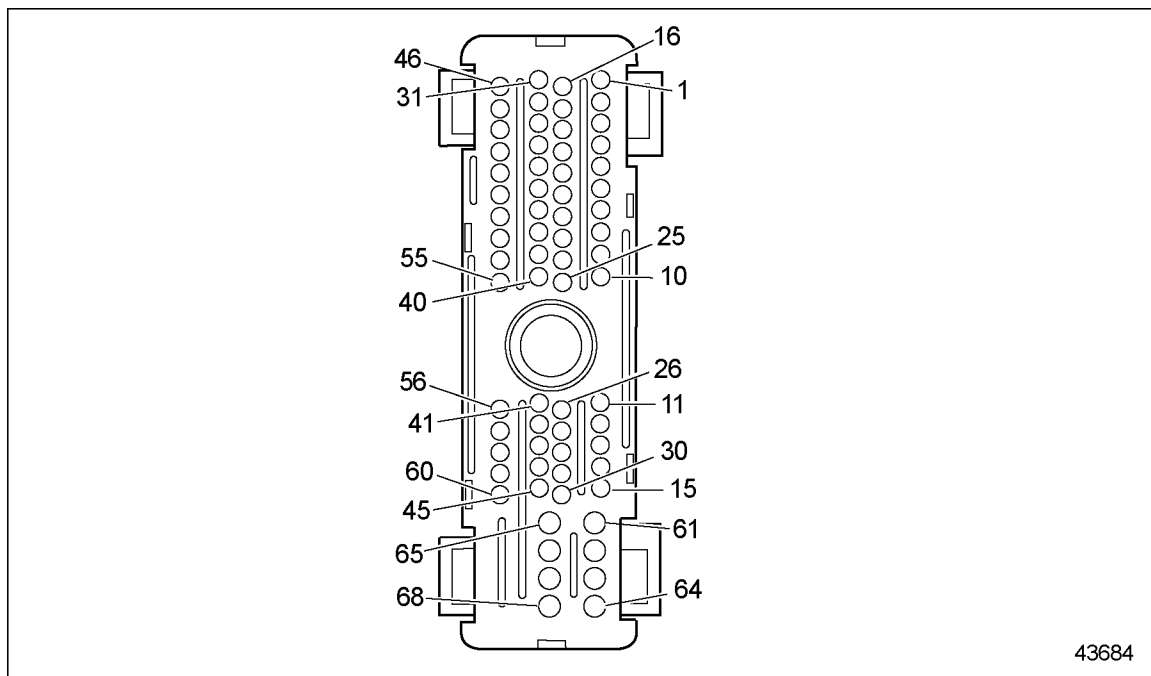

Figure 26-4 ECM/ECU Vehicle Harness Connector
3. Read resistance between sockets V-13 and V-11 on the vehicle harness connector. For ECM/ECU vehicle harness connector, see Figure 26-4.